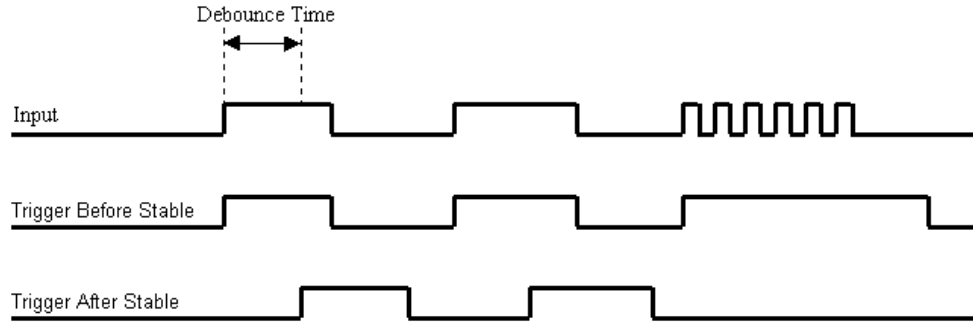

Figure 19. Optimal debounce time for trigger after stable mode
*Trigger after stable* mode behaves more like a traditional debounce function: rejecting glitches and only passing state transitions after a required period of stability. *Trigger after stable* mode is used with electro-mechanical devices like encoders and mechanical switches to reject switch bounce and disturbances due to a vibrating encoder that is not otherwise moving. The debounce time should be set short enough to accept the desired input pulse but longer than the period of the undesired disturbance as shown in Figure 19.